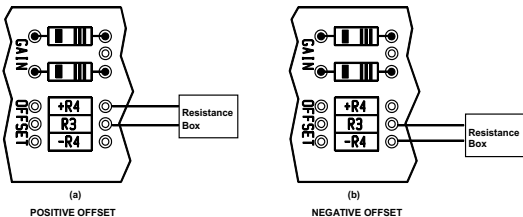

Fig 3.6 Temporary Resistor Connections - Offset
- 6) Fit a NPV fixed resistor that is just below the value required to position R1. Reconnect the temporary variable resistor to position R2, see Fig 3.6(b).
- 2) Connect temporary SOT or variable resistors (leads to be kept as short as possible) as shown for the required polarity offset. Fig. 3.6(a) for a positive offset and Fig. 3.6(b) for a negative offset.